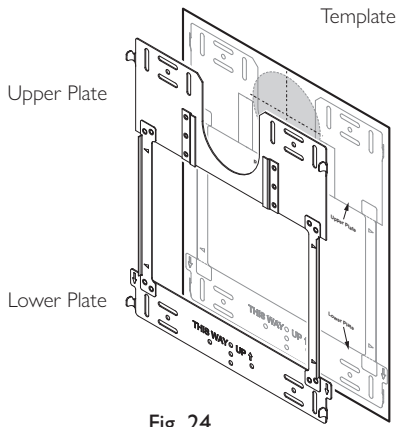

Fig. 24
1. Align the Assure FGHR template on the wall (Fig. 24) and mark the positions of suitable fixing points on the upper and lower plates of the wall frame.